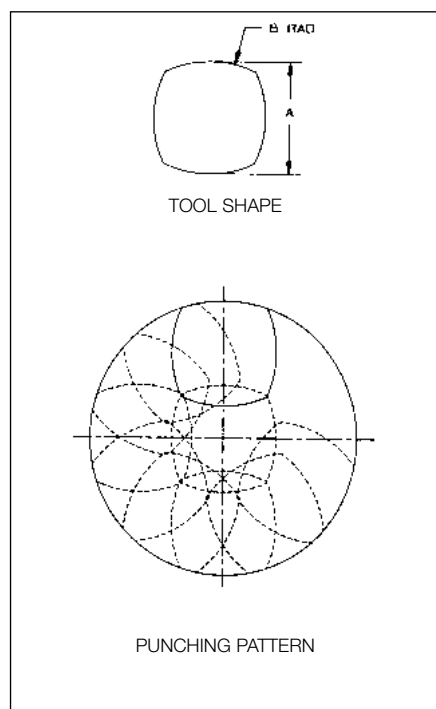

Figure 1
**Figure 1:** This tool is designed so that all the scrap material is removed through the die, thus eliminating the need to stop the machine to remove waste material. You may have FOUR different radii with this tool.